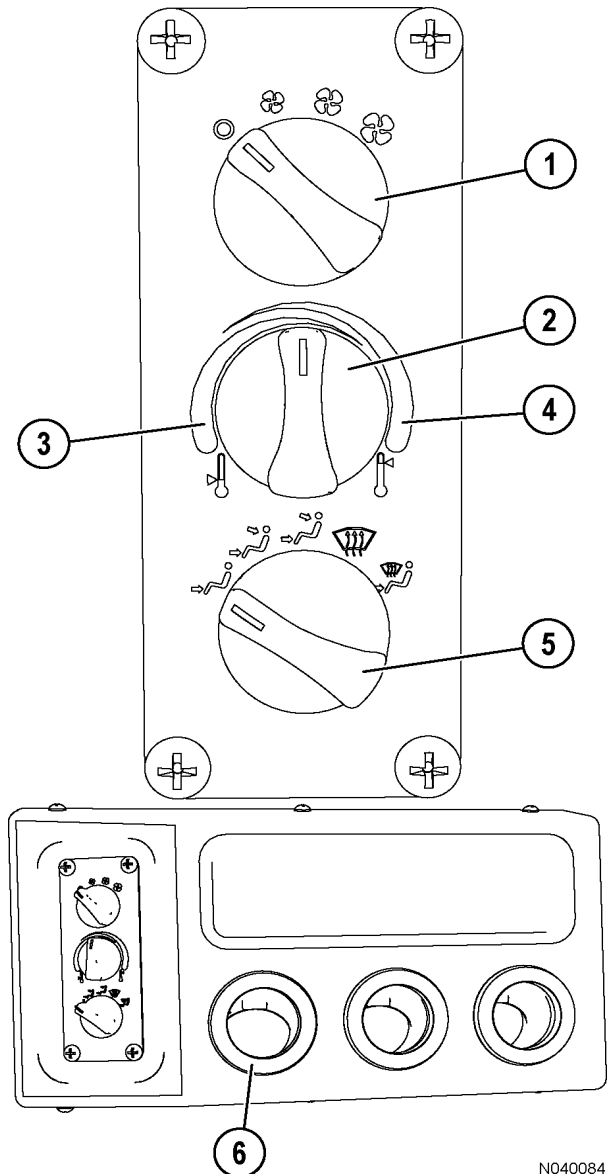

FIGURE 32-7. A/C & HEATER CONTROLS
Fan speed control knob (1, Figure 32-7) is provided to control the cab air fan motor. The fan motor is a 3-speed motor (low, medium and high). Speeds are selected by rotating the control knob clockwise to the desired position. OFF is in the full counter-clockwise position. The control knob must be switched ON for the air conditioner to function.
Temperature control knob (2, Figure 32-7) allows the operator to select a comfortable air temperature.
- Air flow directional knob (5, Figure 32-7) controls the direction of airflow as follows:
Heater/air conditioner vents (6, Figure 32-7) may be rotated 360°. There are three vents in the heater/air conditioner compartment, four vents across the top of the instrument panel, and one vent each in the RH and LH instrument panels. There are also an additional four vents under the instrument panel. Air flow through the vents is controlled by manually opening, closing or turning the louvers.